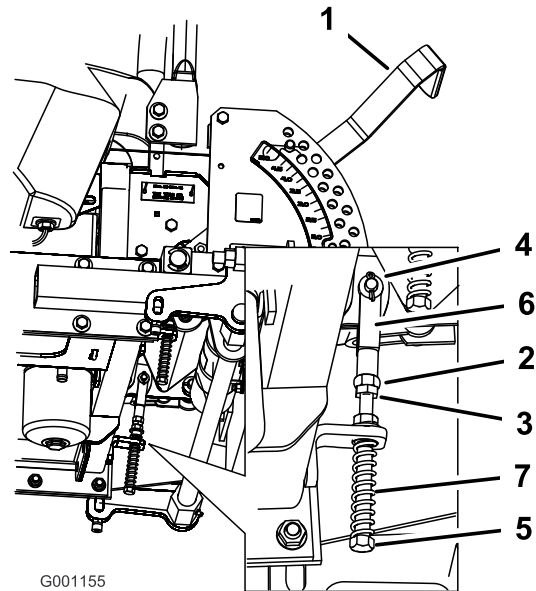

Figure 85
9. While applying slight rearward pressure on the motion-control lever, turn the head of the adjustment bolt in the appropriate direction until the control lever is centered in the NEUTRAL-LOCK position (Figure 85).
10. Tighten the nut and jam nut (Figure 85).
8. If adjustment is needed, loosen the nut and jam nut against the yoke (Figure 85).